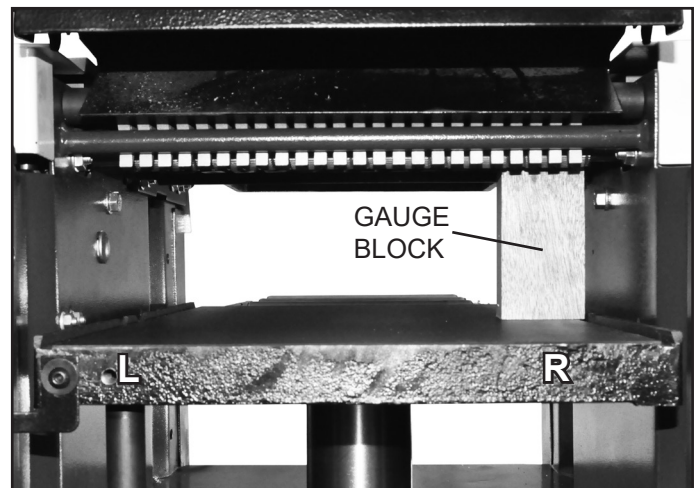

FIG. 16
3. Place a Gauge Block (FIG. 16), or other measuring tool, onto the planer table and directly under the cutterhead at one end (Position R).